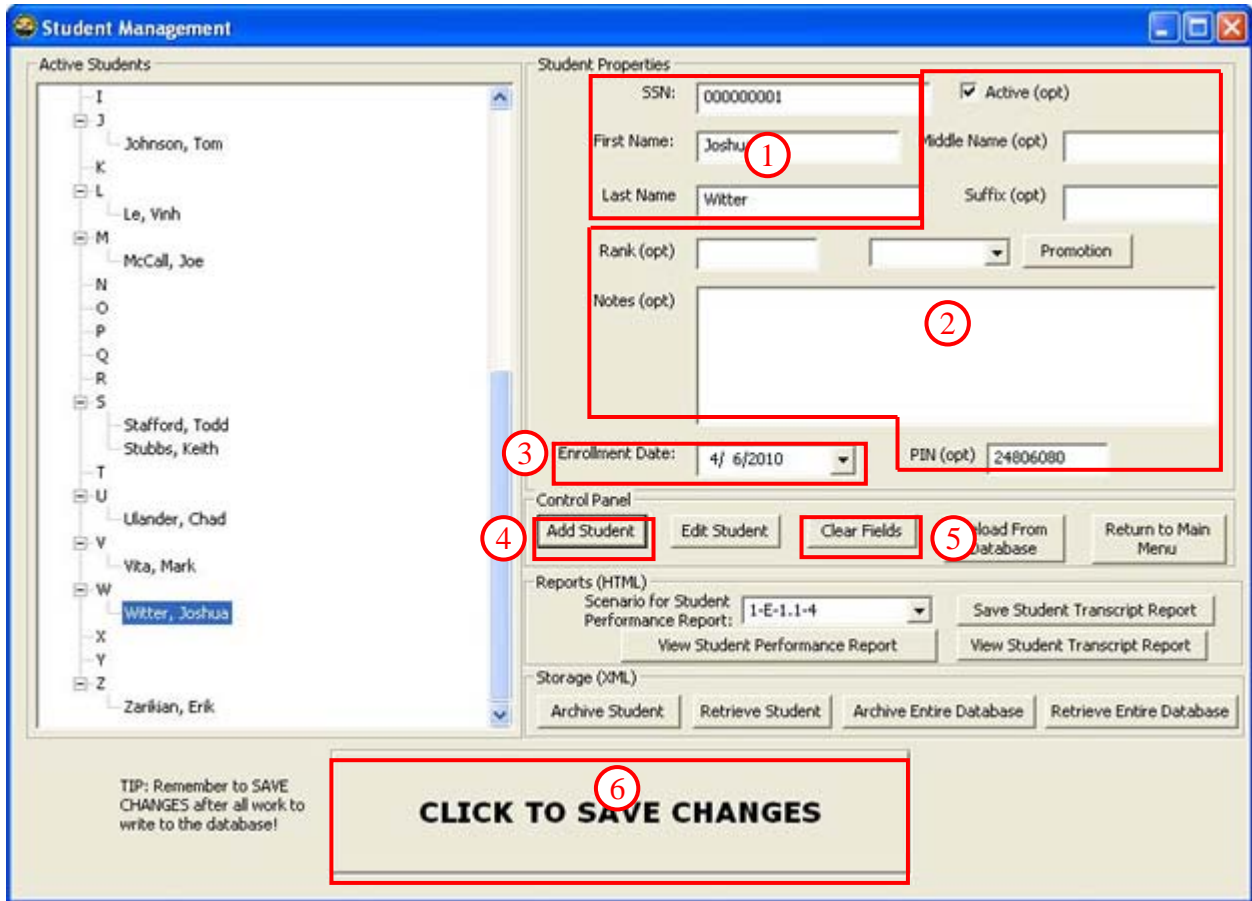

Figure 49. Student Management - Add Student
Click the [STUDENT MANAGEMENT] button (Figure 48) on the Class Manager *Main Menu* screen. Use the *Student Management* screen (Figure 49) to add, edit, delete, archive or retrieve archived instructors from the database. Students are listed alphabetically by last name.
1. Enter the required 9-digit SSN, First Name and Last Name (Figure 49).